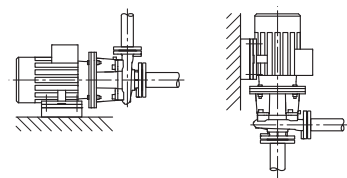

Fig. 41: Version BL
- BL series monobloc pumps are to be mounted on a sufficiently strong base or mounting brackets (Fig. 41). For pumps of BL type, the motor must be supported from a motor power of 18.5 kW, see installation examples BL (Fig. 42).